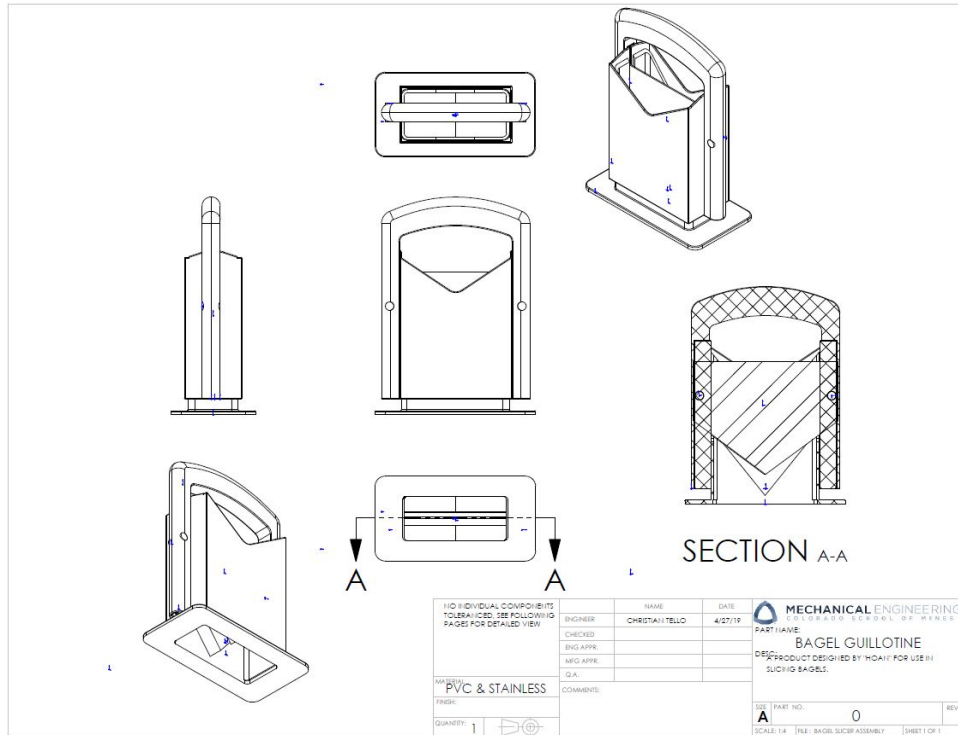

Figure 1. CAD Drawing of the Full Assembly
- Bagel Guillotine should now look identical to Figure 1.